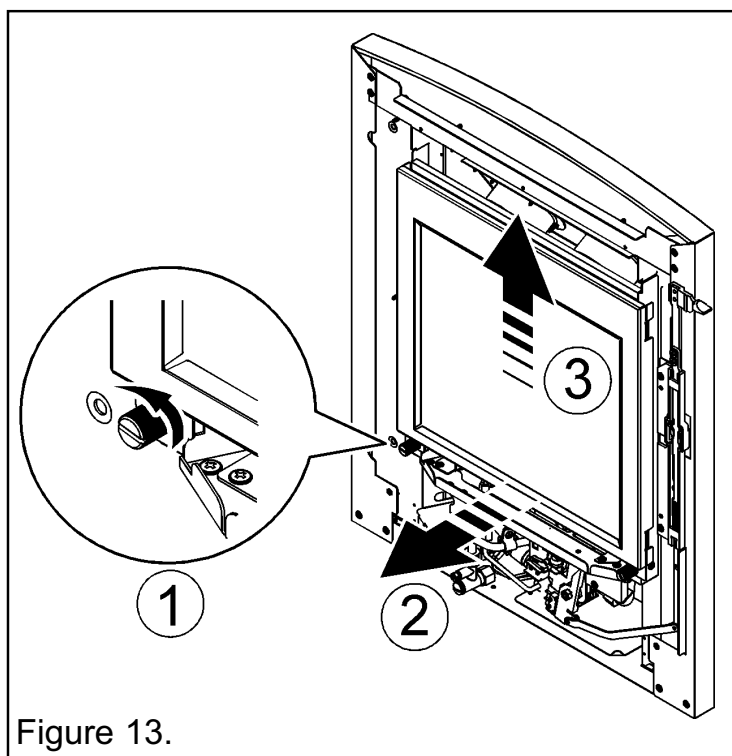

Figure 13.
2. Detach and remove the window assembly. To do this unscrew and remove the two thumbscrews at the base of the window assembly. Gently lift the window assembly upward and forward (See figure 13). Place the window assembly and thumbscrews in a safe place away from the work area.